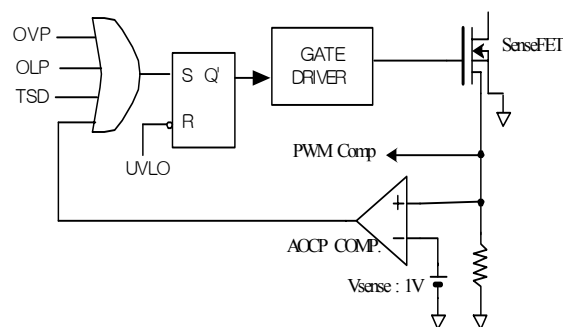

Figure 4. AOCP block
**3.1 Abnormal Over Current Protection (AOCP) :** When the secondary rectifying diodes or the transformer pins are shorted, a steep current with extremely high di/dt can flow during the LEB time. Therefore, the abnormal over current protection (AOCP) block is added to ensure the reliability as shown in figure 4. It turns off the SenseFET within 300ns after the abnormal over current condition is sensed.